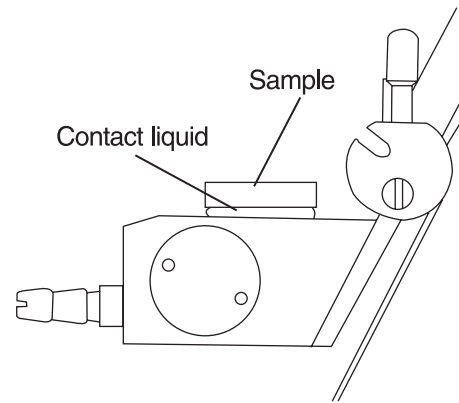

Fig. 9-3
③Put the sample on the center of the prism with careful position of daylighting and contacting face (Fig. 9-3). Thinly splay the contact liquid on the entire spacing of the sample and the prism. When the contact liquid dose not spread, by putting a thin stick tipped with the contact liquid on a spacing of the sample and the main prism, splay it. In addition, error will cause in measurement if the sample does not adequately contact with the prism because of too much contact liquid. In such case, run off extra contact liquid by slightly pressing down the top of the sample. Remove the surplus liquid which runs off the prism by pressing such as the edge of tissue paper.